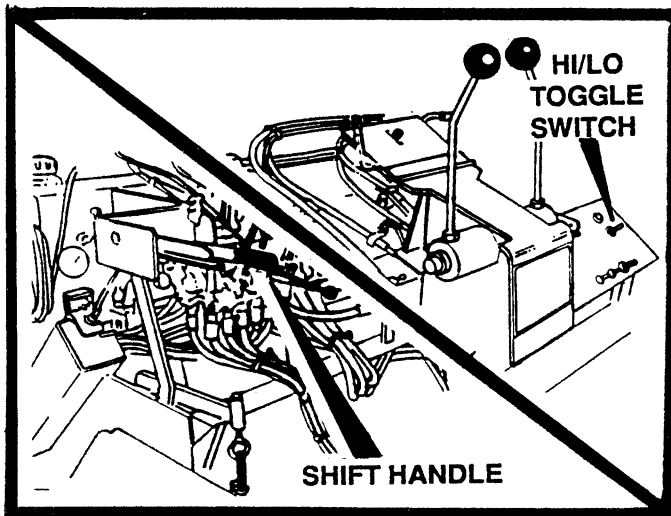

FIGURE 21
2. In figure 21 shows two methods of shifting the paver from HI to LOW gear. Item 17 High and Low gear, cable is used with the two speed transmission, push down to low gear, pull up to high gear. Item 15 High and Low, toggle is a toggle switch used with the Torque Hub, pull toggle switch down to low and push up to high gear. When the paver is equipped with torque hub, a high gear indicator light will be on steady, indicating that paver is in high gear. If this same indicator light is flashing, this means that the feeder chain will need adjusting.